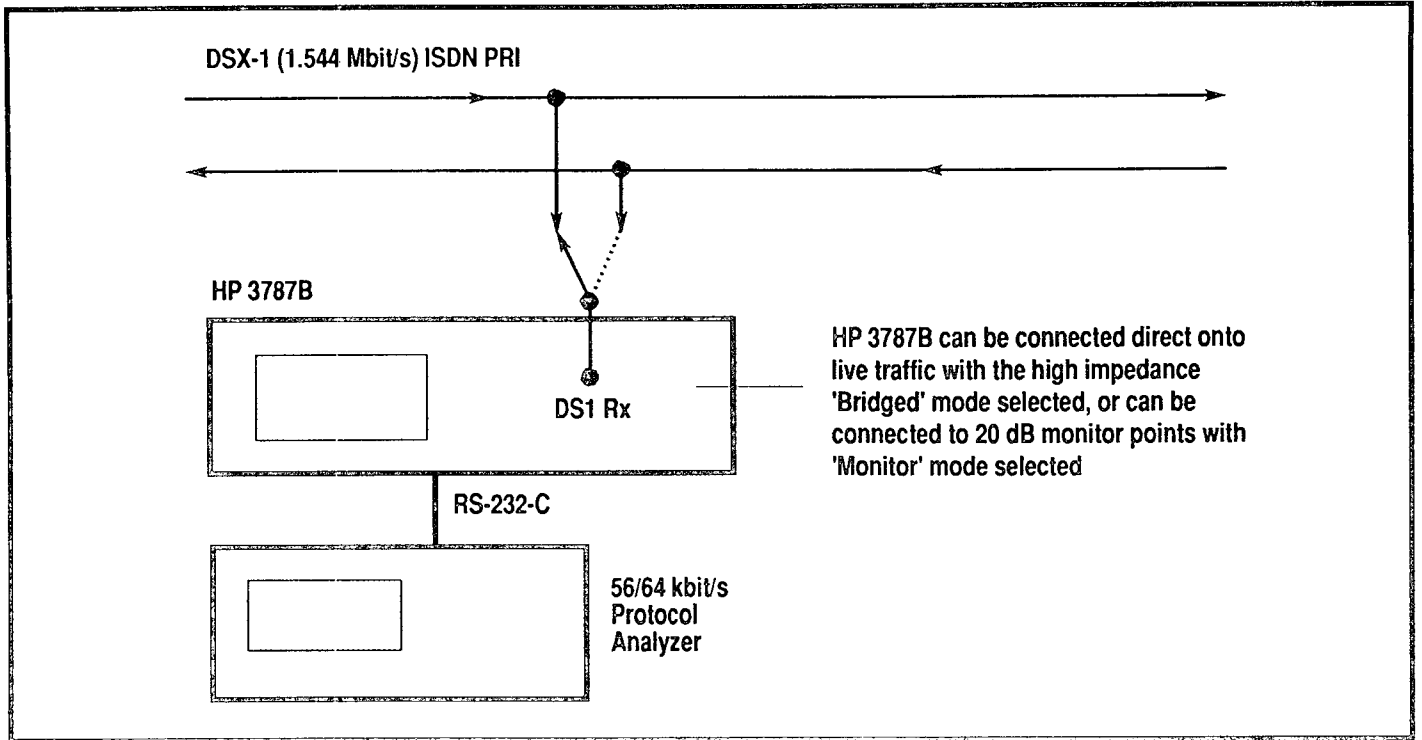

Figure 3 Performance monitoring test configuration
3. Connect the HP 3787B to the unit under test as shown in Figure 3.